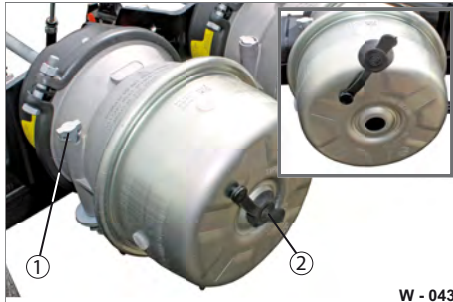

Fig. 43 Spring-loaded diaphragm cylinder
When the trailer is ready to be driven, the release screw (Fig. 43/1) must be fixed in place in a location provided for the purpose.
The end cap (Fig. 43/2) covers the bore hole in the cover of the spring accumulator diaphragm cylinder.
- ▶ Fix the release bolt to the diaphragm cylinder in the location provided (see Fig. 43).
- ▶ Close the bore hole with the end cap (Fig. 43/2).